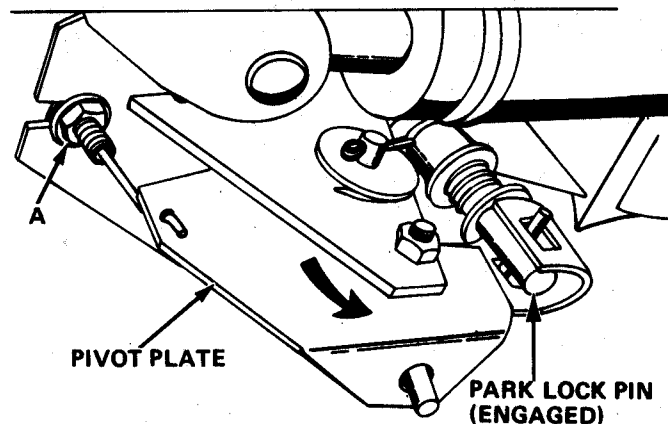
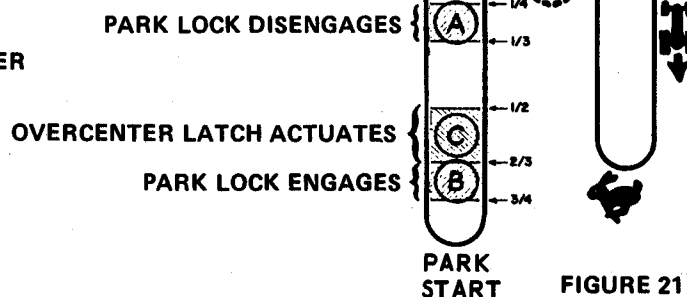
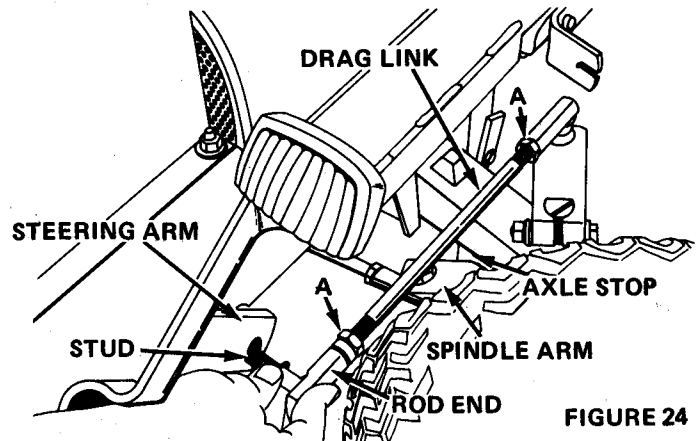

FIGURE 20
FIGURE 21
FIGURE 24
When the hydrostatic control lever is placed in the "park-start" position, the cable shown in Figure 20 is pushed out of the cable housing causing the pivot plate to rotate in the direction of the arrow. This results in the park-lock pin engaging in a reduction gear in the differential housing which locks the rear wheels. When the control lever is moved forward, the pivot plate rotates opposite to the direction of the arrow shown in Figure 20 and the park-lock pin disengages from the reduction gear thus unlocking the rear wheels.
The park-lock mechanism is properly adjusted when the over-center latch pin, Figure 20 actuates at Point C, Figure 24 (approximately 1/2 to 2/3 the length of the slot on the console cover), as the control lever is moved from the front of the slot back into the park-start position. A distinct "click" can be heard when the over-center latch actuates.
When the mechanism is properly adjusted, the park-lock pin will engage the teeth of the reduction gear when the control lever reaches Point B, Figure 21, and the pin will be completely disengaged at Point A.
Adjustment is made by loosening nuts A, Figure 20, and moving the cable housing "in" or "out" until the over-center latch actuates when the control lever reaches Point C, Figure 21, as the lever is moved from the front of the slot, rearward into the park-start position. Moving the cable housing "in" toward the tractor causes the park-lock pin to engage later. Moving it "out" away from the tractor causes the pin to engage earlier in the reduction gear.
The "park-lock" brake is adjusted by tightening or loosening nut A, Figure 20.
When making a full right hand turn, the spindle arm should contact the axle stop as shown in Figure 24. When making a full left hand turn, the left spindle arm should contact the left axle stop. Proceed as follows to adjust the steering stops after checking toe-in.
1. Rotate front wheels to the right until right spindle arm contacts the axle stop, Figure 24.
2. Remove drag link rod end from steering arm, Figure 24, and loosen jam nuts A.
3. Rotate drag link as required while preventing the loose rod end from turning until the stud is approximately ½ hole to the rear of hole in steering arm, Figure 24. Be sure axle stop contacts steering arm.